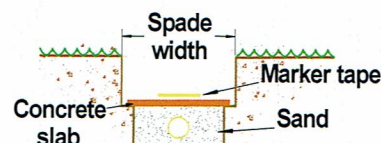

Fig 17
- 375mm depth of cover must have concrete slabs covering the run of pipe set 100mm above the pipe (Fig 17).